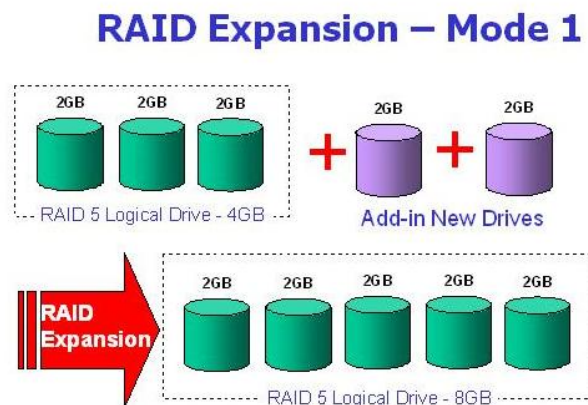

Figure 9-9: RAID Expansion Mode 1
Mode 1 Expansion is illustrated in *Figure 9-9* and involves adding more hard disk drives to a logical drive, which may require that the purchase of an enclosure with more drive bays. The data will be re-striped onto the original and newly added disks.
In *Figure 9-9* above, new drives are added to increase the capacity of a 4-Gigabyte (GB) RAID 5 logical drive. The two new drives increase the capacity to 8GB.